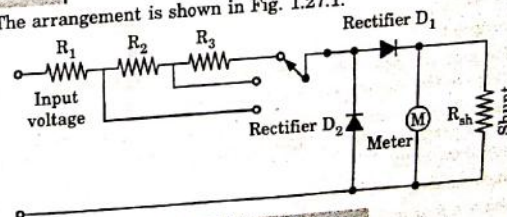

Fig. 1.27.1. Multimeter.
1. The arrangement is shown in Fig. 1.27.1.